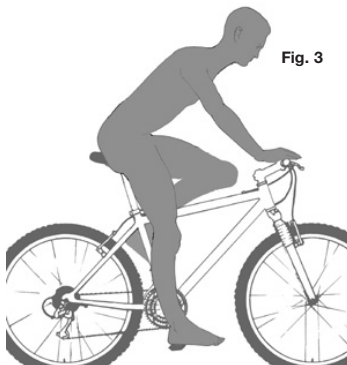

Fig. 3
- 1 Up and down adjustment. To check for correct saddle height (fig. 3):